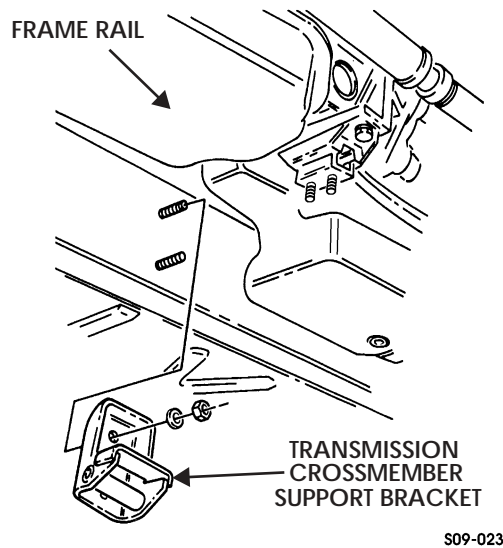

Figure 9-35: Transmission Crossmember Support Bracket
2. Remove two locknuts and washers securing transmission crossmember support bracket to frame rail. Discard locknuts (Figure 9-35).
1. Install transmission crossmember support bracket on two capscrews and frame rail with two washers and locknuts. Tighten locknuts to 90 lb-ft (122 N•m) (Figure 9-35).